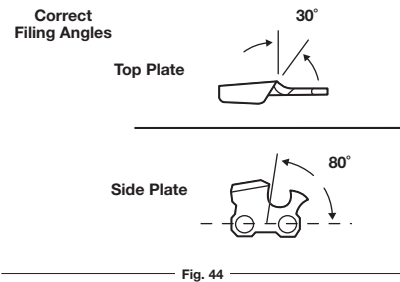

Fig. 44
- **CORRECT (30°)** – File holders are marked with guide marks to align the file properly and produce the correct top plate angle (Fig. 44).
- **CORRECT (80°)** – This is produced automatically if the correct diameter file is used in the file holder (Fig. 44).
- Maintain the depth gauge at a clearance of 1/32" (0.6 mm). Use a depth gauge tool for checking the depth gauge clearances. (Fig. 44)